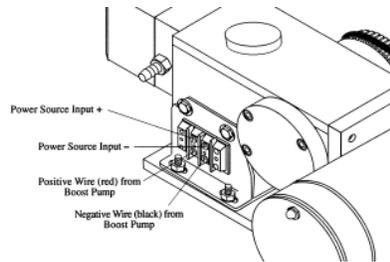

Figure 2.6: Little Wonder MODULAR (DC UNIT) Electrical Interface Views.
12 VDC units require 6 gauge wire and a 25 amp fuse or circuit breaker. Connect RO unit's power supply red wire (Positive +) from load side of unit's breaker, to power input on the **Little Wonder MODULAR's** terminal strip (Refer to Figure 2.6).
Step 5: With the DC units, connect the boost pump wires red and black to the same terminals at the side of the high pressure pump as shown in figure 2.6.